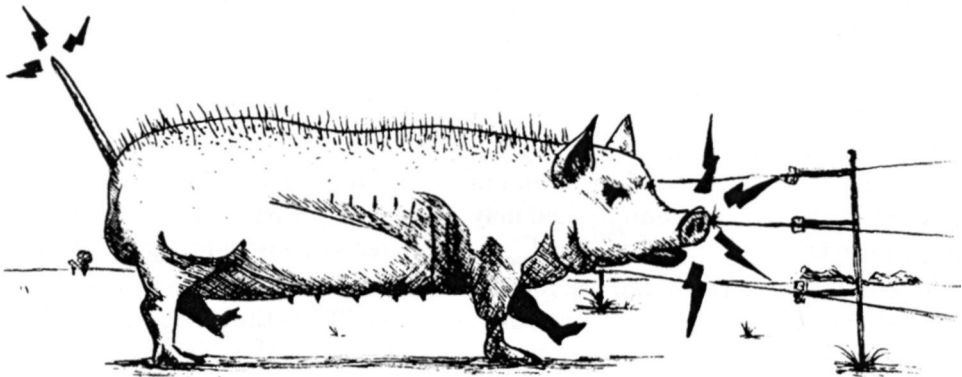

Figure 11.13 Pigs can be contained by electric fencing.
- purpose. You might choose stock for meat, wool, milk or manure. You may want an animal to keep the weeds down in the paddock. If you want land cleared, and shrubs, trees and weeds removed, then get Pigs- Pigs can be contained by electric fencing, as shown in figure 11.13. A simple electric line is all you need. The pigs will "learn" quickly and test the line periodically - or push one of their mates into the electric fence to see if it is still on!